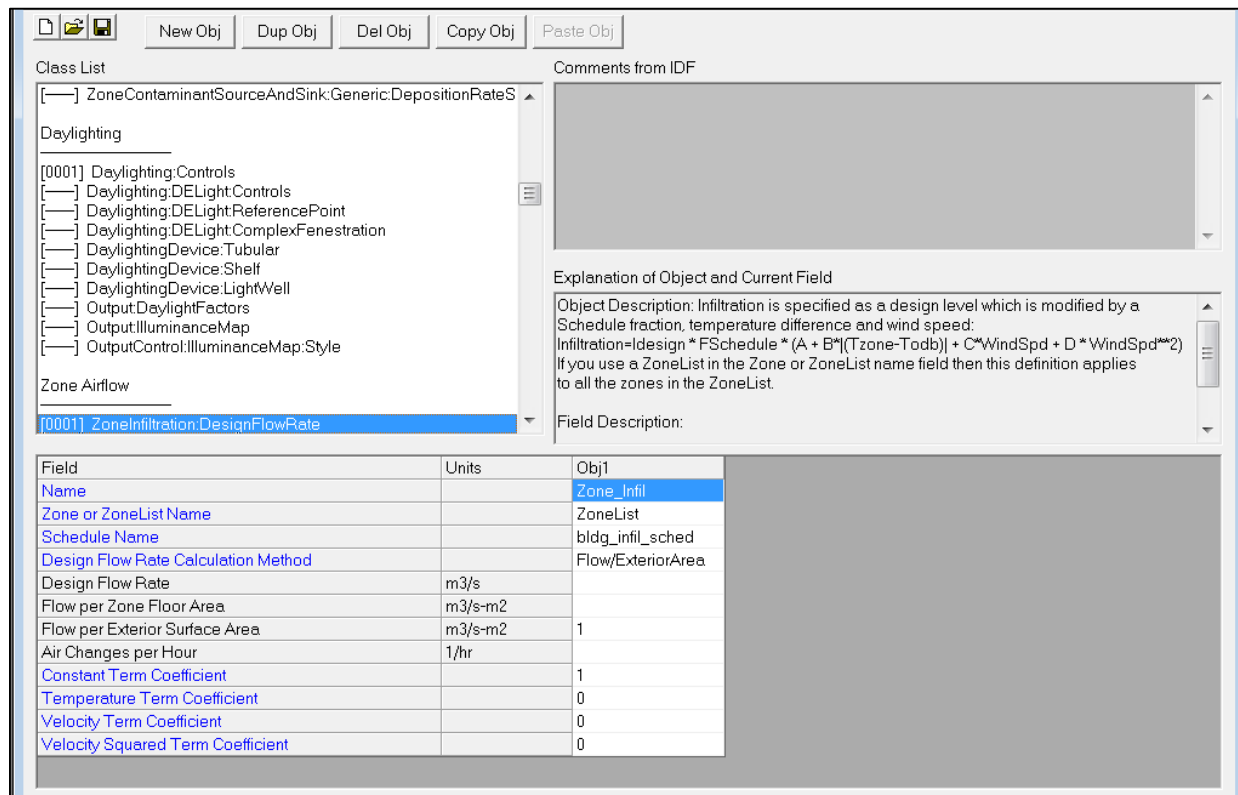

Figure 28. Creating new ZoneInfiltration:DesignFlowRate object in EnergyPlus project file
- c. Scroll or use the Find function (Ctrl+F) to go to the ZoneInfiltration:DesignFlowRate object (**Figure 28**). Delete any existing ZoneInfiltration:DesignFlowRate objects. Press the “New Obj” button. In the new ZoneInfiltration:DesignFlowRate object, input the following (the inputs are also in the partial .idf file):